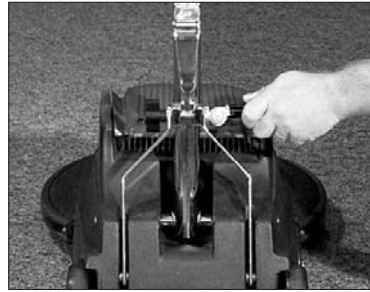

Fig 3
**NOTE:** The hardened steel cam release lever does not require extreme tightening to effectively hold the handle in position. Over-tightening will shorten the functional life of the lever. (Fig 3)